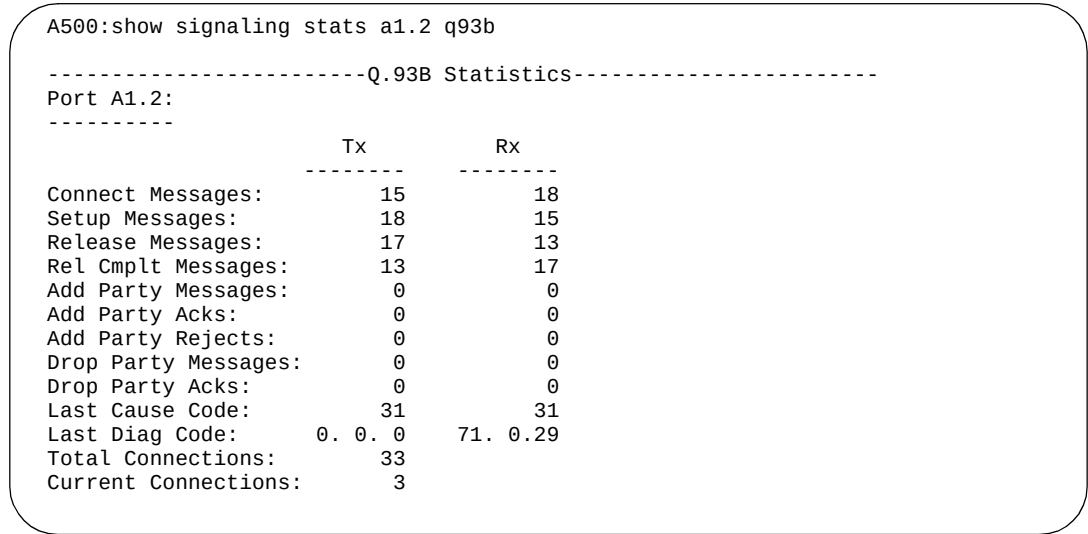

Figure 1-53. A500:show signaling stats A1.2 q93b
1. Enter **show signaling stats port q93b** (or the port of interest) on the A500 console. Figure 1-53 shows the screen output.